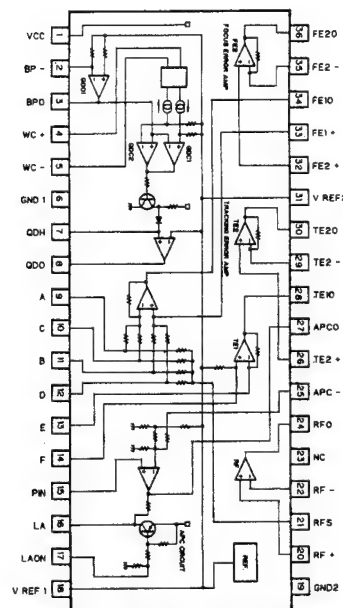

Fig.62 Block diagram
The present system, which is of single power (+5 V) type, has 2.5 volts available for both RF Amplifier Reference Voltage Vref and other signal circuit reference voltage REFOUT. Voltages referred to below are to be expressed in Unit [REFOUT]. (A voltage based on a reference value of 0 (V) is to be expressed in Unit [V].) The IC is a 36-pin flat package, which has an internal configuration as shown in Fig. 62.